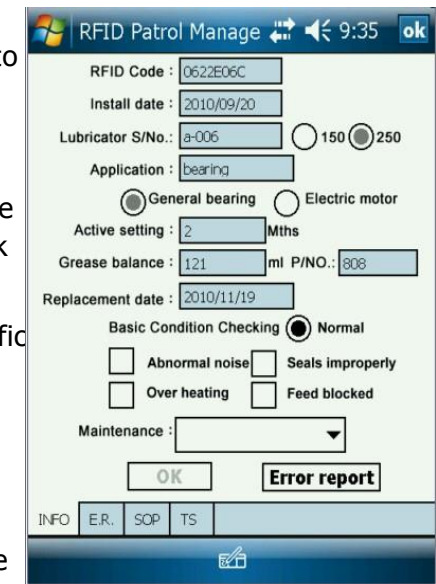

Fig. 8
- 1 On a routine inspection patrol, use Easylube® Reader to touch a mark  at main body of lubricator for scan RFID tag with. The specific lube point data will appear on screen (Fig.8).